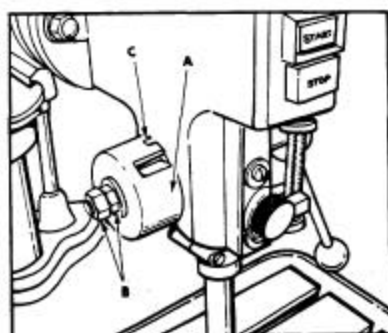

Figure 9
3. Tighten the two quill adjusting screws (A) fig. 9, which are located directly underneath the two screws and washers. It is not necessary to tighten these screws too much.
5. When making this adjustment, make sure the stop rod (B) fig. 9, moves freely up and down.